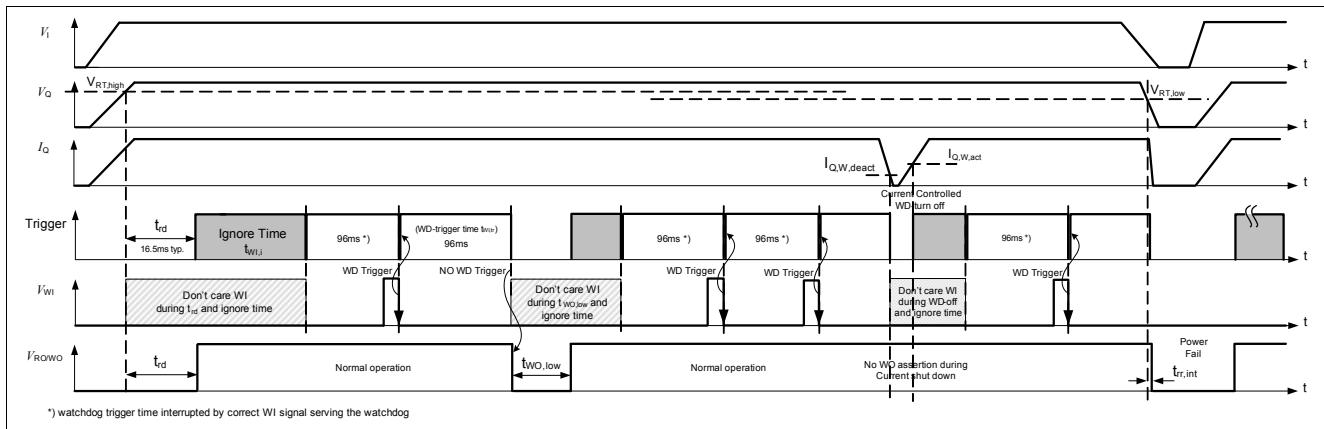

Figure 9 Typical Watchdog Timing Diagram, Watchdog and Reset Modes
Figure 9 shows the state diagram of the watchdog (WD) and the mode selection. After power-on, the reset output signal at the "RO/WO" pin (microcontroller reset) is kept LOW for the reset delay time t_{rd} . With the LOW to HIGH transition of the signal at "RO/WO" the device starts the watchdog ignore time $t_{WI,i}$. Next, the WD starts the watchdog trigger time (time frame within a trigger at WI must occur).